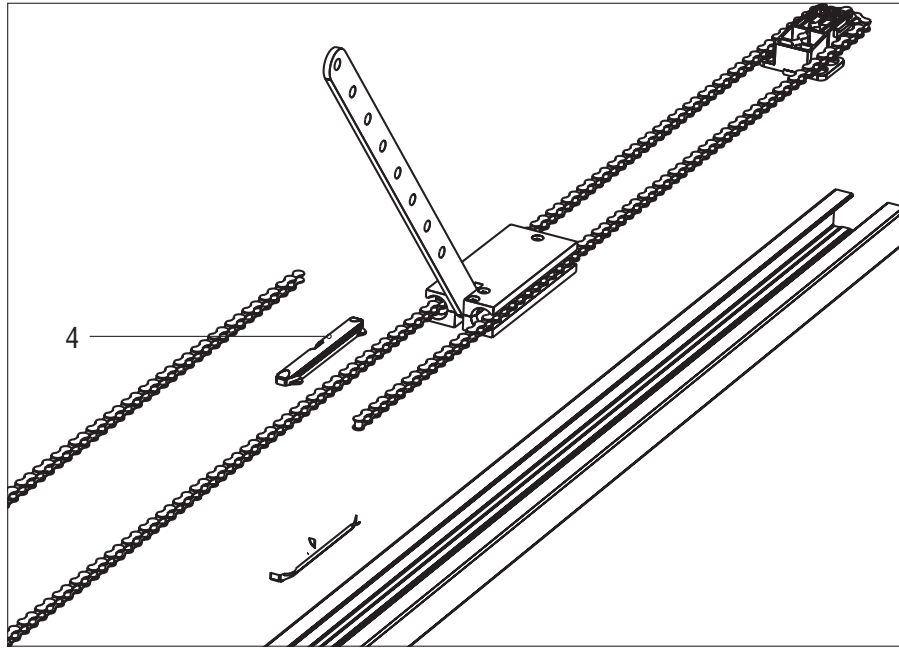

Figure 4
5. Disassemble a support, pos. 4, into two parts (fig. 4).